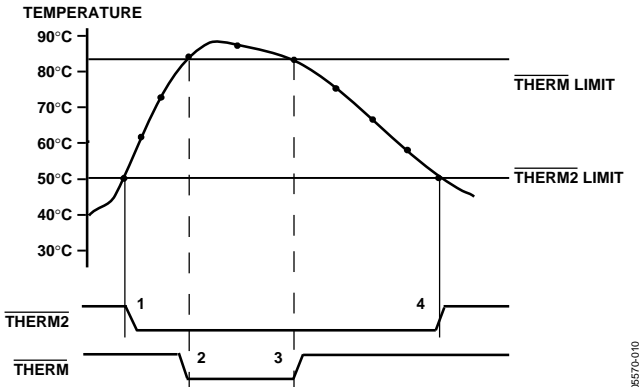

Figure 21. Operation of the $\overline{\text{THERM}}$ and $\overline{\text{THERM2}}$ Interrupts
Pin 13 on the ADT7483A can be configured as either an $\overline{\text{ALERT}}$ output or as an additional $\overline{\text{THERM}}$ output. $\overline{\text{THERM2}}$ will assert low when the temperature exceeds the programmed local and/or remote high temperature limits. It is reset in the same manner as $\overline{\text{THERM1}}$, and it is not maskable. The programmed hysteresis value also applies to $\overline{\text{THERM2}}$. Figure 21 shows how $\overline{\text{THERM}}$ and $\overline{\text{THERM2}}$ might operate together to implement two methods of cooling the system. In this example, the $\overline{\text{THERM2}}$ limits are set lower than the $\overline{\text{THERM}}$ limits. The $\overline{\text{THERM2}}$ output can be used to turn on a fan. If the temperature continues to rise and exceeds the $\overline{\text{THERM}}$ limits, the $\overline{\text{THERM}}$ output can provide additional cooling by throttling the CPU.
- The $\overline{\text{THERM}}$ output deasserts (goes high) when the temperature falls to $\overline{\text{THERM}}$ limit minus hysteresis. In Figure 21, there is no hysteresis value shown.